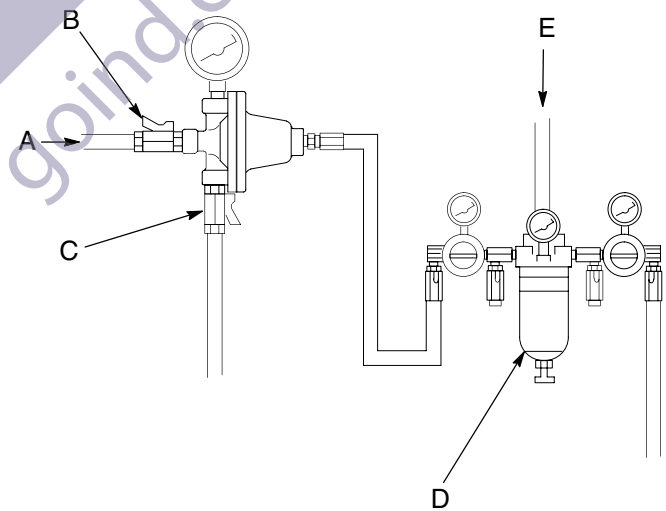

Fig. 2
1. Start the pump and open the fluid regulator's inlet ball valve (B) to admit fluid to the regulator. See Fig. 2.
1. Shut off the pump. Close the ball valve at the regulator's air inlet. Refer to Fig. 2, page 5.